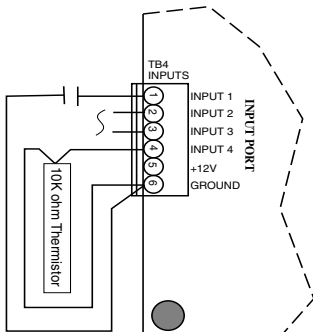

Figure 4. Input Device Connections
1. Connect the external input devices (contact or thermistor) leads to an input terminal, TB4 – 1 through TB4 – 4 (Input 1 to Input 4, see Figure 4).